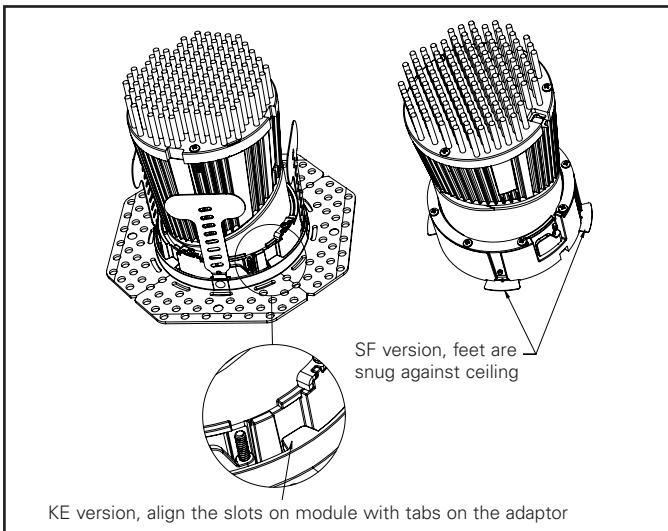

Figure 5.
7. For the Self Flange version, insert LED module into the ceiling until feet are snug against the ceiling. For Knife edge version, align the slots on the LED module with tabs on the rimless adaptor and insert the LED module into the ceiling unit adaptor such that the adaptor tabs are snug against the module. (See Figure 5)